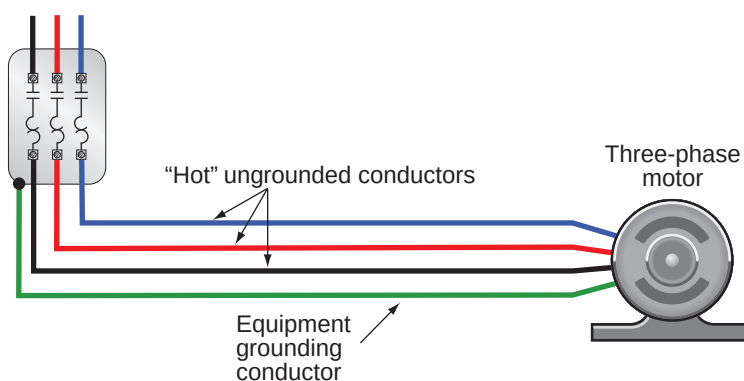

FIGURE 4-10 Count equipment-grounding conductors for raceway fill, but not as current-carrying conductor. (Delmar/Cengage Learning)
- You are NOT required to count equipment-grounding conductors that are run in the same raceway or cable with circuit conductors, Figure 4-10. Equipment grounding conductors must be included when calculating raceway fill. See *NEC 310.15(B)(6)*.